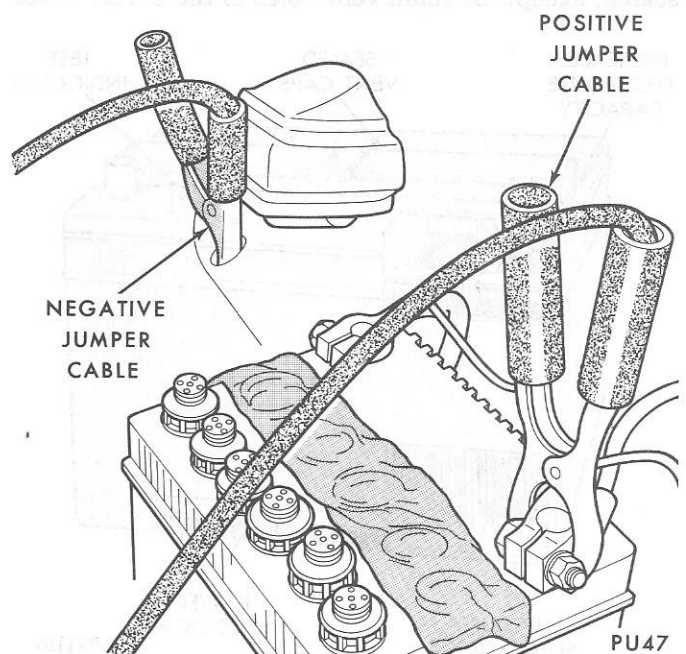

Fig. 17—Both Jumper Cables Connected
(6) Connect **ONE** end of other jumper cable to **Negative (-) Post** of booster battery. Connect **Other** end of cable to alternator mounting bracket of vehicle with discharged battery, making sure a good connection is made. **Do not connect to negative post of discharged battery** (Fig. 17).